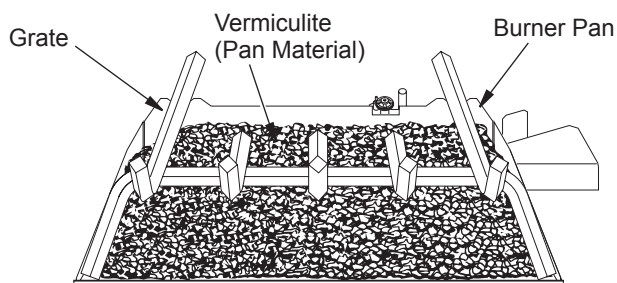

Figure 22 - Fill Entire Burner Pan with Vermiculite
1. Open the bag(s) of vermiculite and fill the entire burner pan until the burner tube is completely covered (see Figure 22).